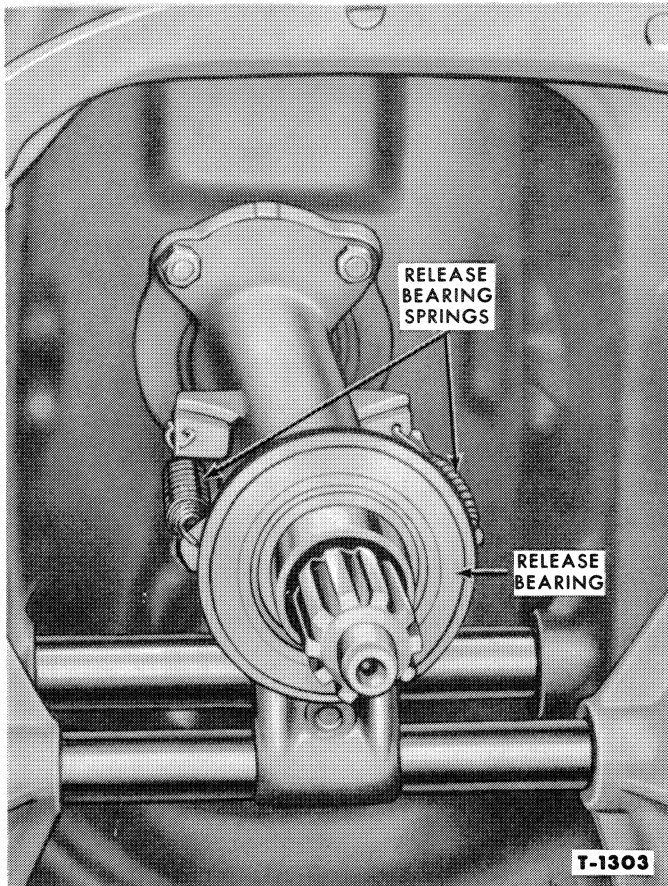

Figure 3—Removing Clutch Release Bearing
3. Disconnect the clutch release bearing springs and remove the bearing and hub assembly, Figure 3.